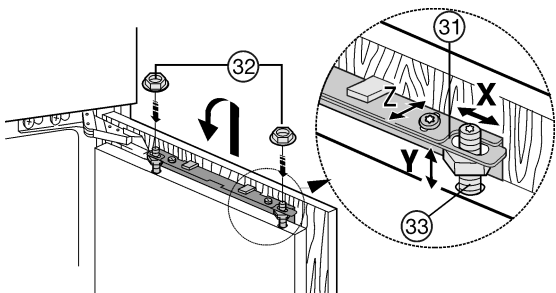

Fig. 20
- ▶ Attach the unit door to the adjusting bolts *Fig. 20 (33)* and loosely screw the locknuts *Fig. 20 (32)* onto the adjusting bolts.
- ▶ Align unit door in height and lateral inclination: Adjust the adjusting bolts *Fig. 20 (33)* using a screwdriver.
- ▶ Tighten the lock nuts *Fig. 20 (32)*.